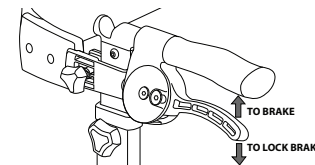

FIGURE 4
4. Pull brake lever up for normal operation; push lever down to lock brake as shown in FIGURE 4. **WARNING:** Brakes must be locked before sitting. Do not move Rollator while seated.